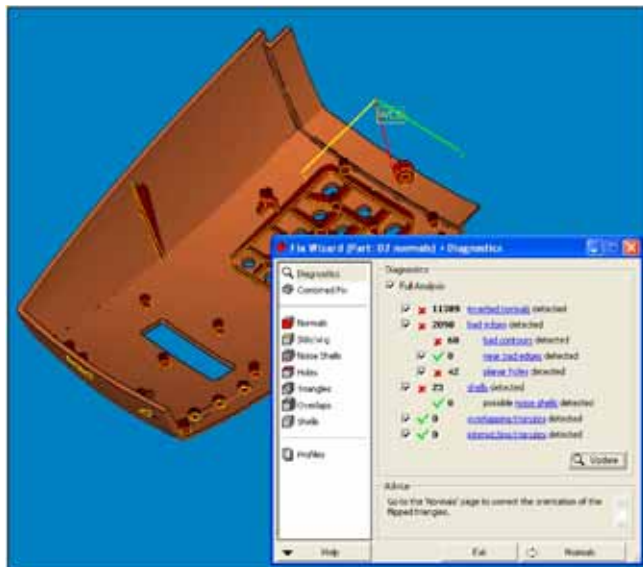

Figure 68: Model to fix - 02_normals.stl
- The model for this exercise is shown in Figure 68.